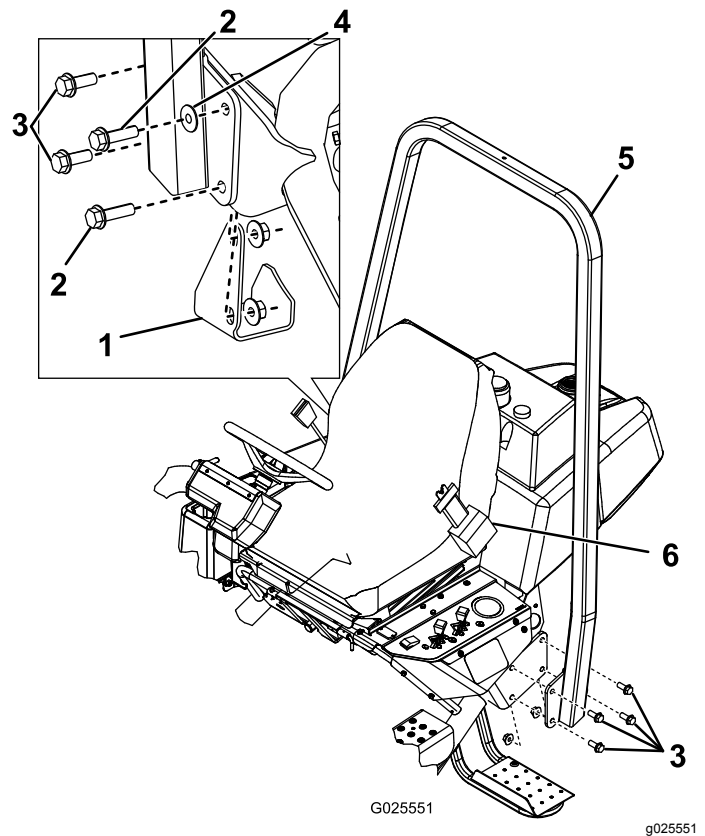

Figure 6
- Lower the ROPS frame (Figure 6) onto the mounting brackets, aligning the mounting holes.
- Secure the left side of the roll bar to the mounting bracket with 4 bolts (1/2 x 1.5 inch) and locknuts (Figure 6). Torque the fasteners to 91 to 115 N-m (67 to 85 ft-lb).
- Secure the right side of the roll bar and the previously removed jack pad to the mounting bracket with 2 bolts (1/2 x 1.5 inch), 2 bolts (1/2 x 1.75 inch), 1 washer, and locknuts as illustrated in Figure 6. Torque the fasteners to 91 to 115 N-m (67 to 85 ft-lb).
Important: Ensure that you install the washer in the correct location as illustrated in Figure 6.